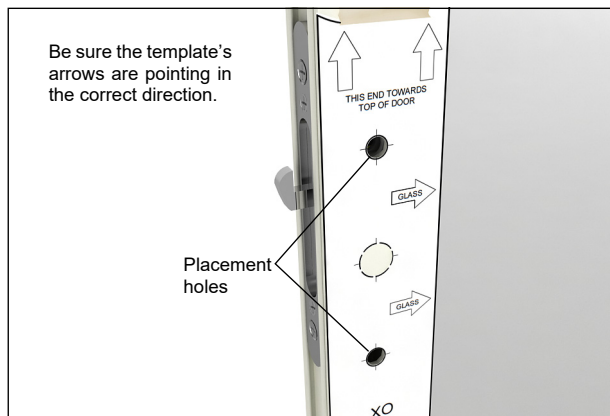

Figure 2
3. Align the top and bottom placement holes of the template with the exterior holes of the door. Be sure to point the direction arrows toward the glass and top of the panel as shown. Attach the template to the door with tape. See figure 2.